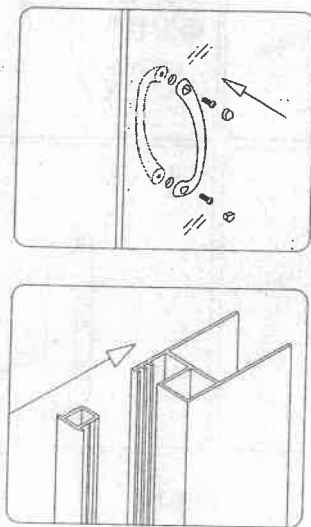

Fig 14
11. Install the **Handle (14)** on the glass door. And insert the **Article Decoration (13)** to the profile. See Fig 14 for details.